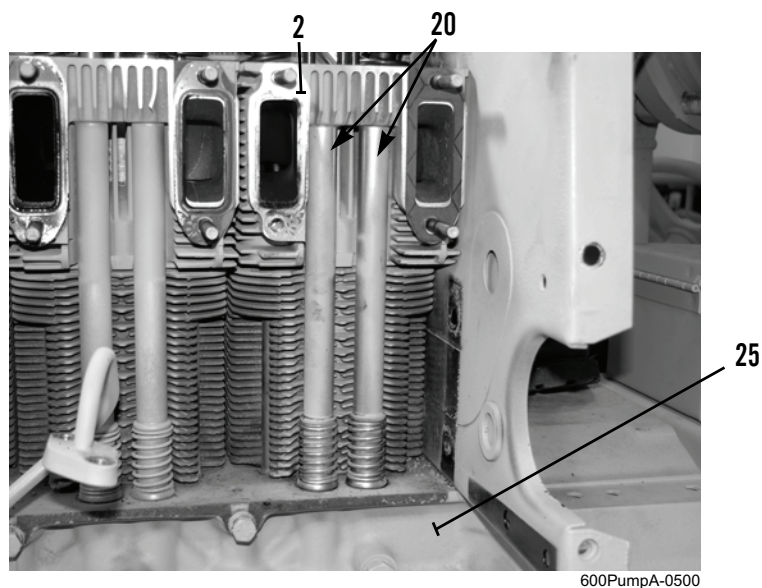

Figure 14. Cover Tubes.
7. Slide cover tube (Figure 14, Item 20) in engine block (Figure 14, Item 25), then in cylinder head (Figure 14, Item 2). Remove spring compressor.
8. Repeat steps 4-7 to install other cover tube (Figure 14, Item 20).